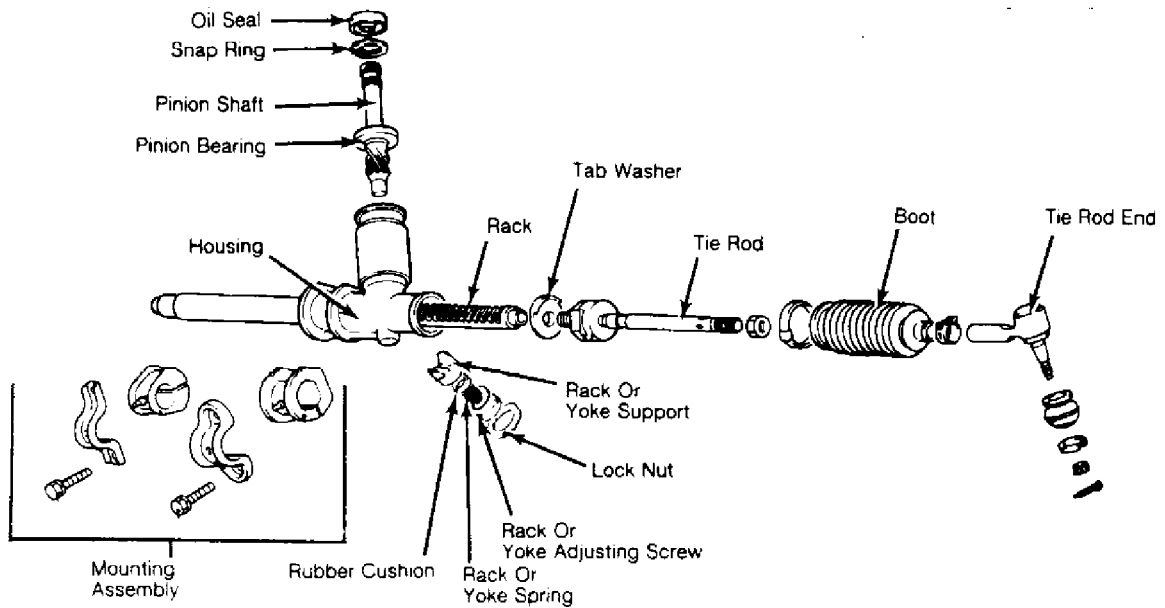

Fig. 1: Exploded View of Manual Rack & Pinion Steering Gear (Typical)
Steering gear is a rack and pinion type. Steering gear is connected to steering knuckles by tie rods. A flexible coupling connects steering column to steering gear pinion shaft. See Fig. 1.
1) Mount steering gear in a soft-jawed vise. Remove tie rod end assemblies. Remove adjusting plug lock nut. See Fig. 1. Remove rack or yoke adjusting screw (plug), plunger spring, rubber cushion and rack support from housing.
1) Mount steering gear in a soft-jawed vise. Remove boot clamps and boots. Using a chisel, unstake left tie rod. Move tie rod all the way to right. Place rack in soft-jawed vise. Loosen tie rod end nut. See Fig. 1.